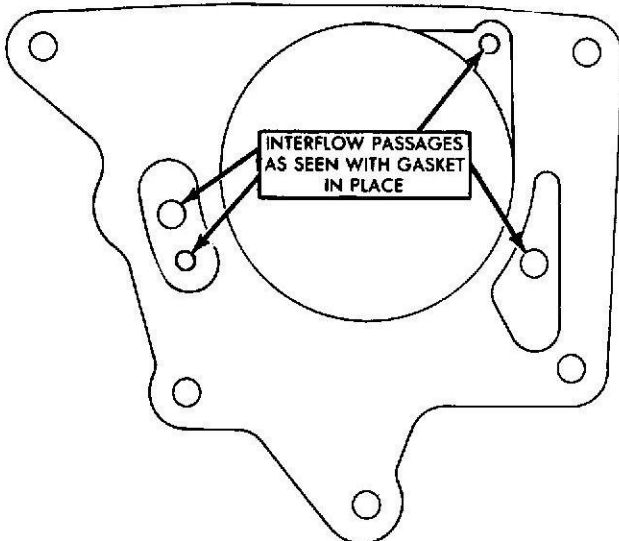

Fig. 1 Tremac 3-Speed Manual Housing With Interflow Lubrication System
- Four holes have been added to the rear face of the transmission case for venting and oil circulation between the transmission and transfer case (Fig. 1).
- The transmission to transfer case gasket has been redesigned as shown (Fig. 1).